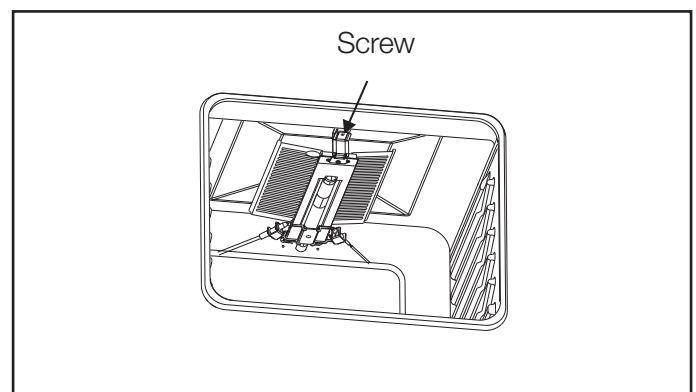

Figure 6
1. Open the grill door and locate the retaining screw on the tip of the grill burner as shown in figure 6.